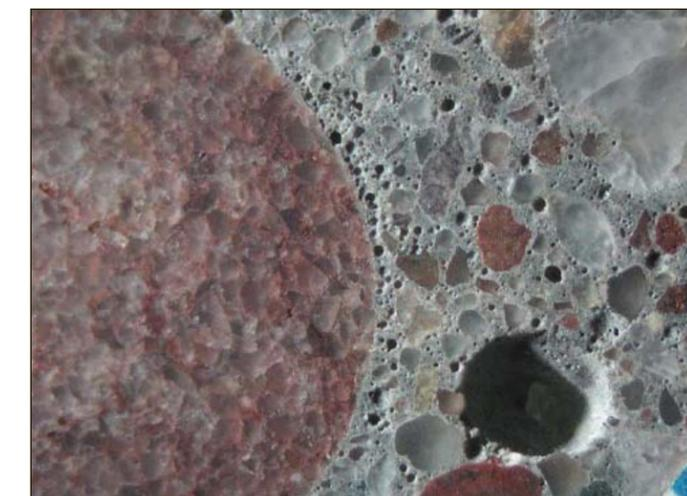

Figure 1. A typical example of air voids clustered around an aggregate particle
- Air voids cluster around aggregate particles (figure 1).